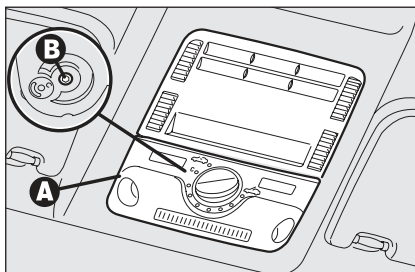

fig. 89
- ☐ press the light notches to release the clips and remove the front ceiling light **A-fig. 89**.